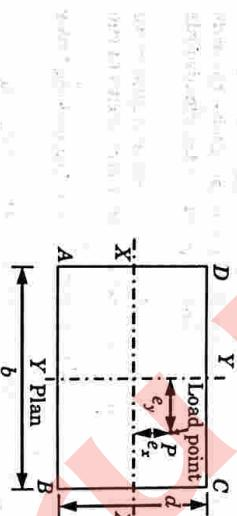

Fig. 4.16.1.
1. A column of rectangular section ABCD, subjected to a load which is eccentric to both axes, is shown in Fig. 4.16.1.